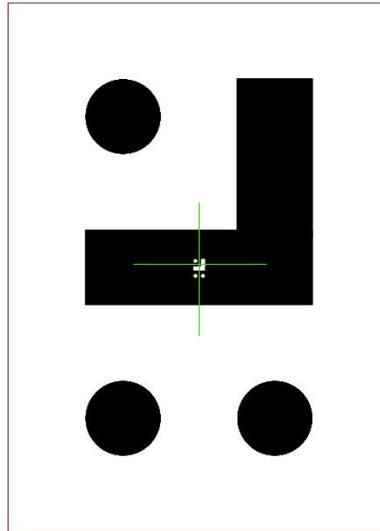

Figure 1: Centered Cross Overlay
8. Verify that the cross overlay is centered on the landing aid pattern as shown in Figure 1.